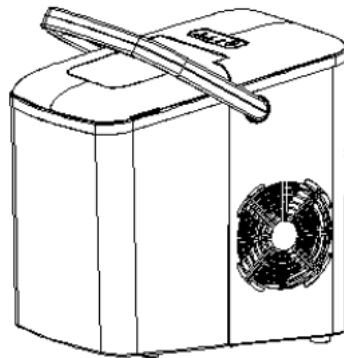

Fig.2
2) Make the handle align with the holes at the housing and release the hands, then insert the handle into the holes of the housing (see Fig.2).